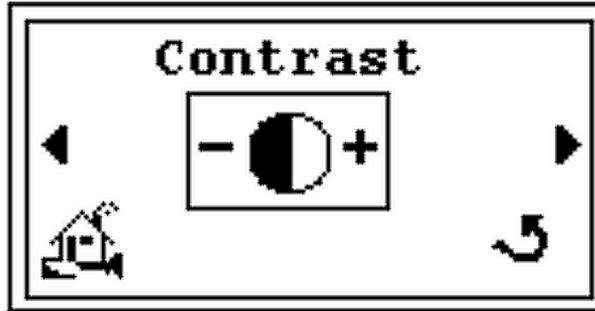

Figure 2-36 Contrast - Initial Screen
4. Press the  and the *Contrast* screen appears (Figure 2-36).
7. Press **Enter** and the *Contrast* screen reappears (Figure 2-36).